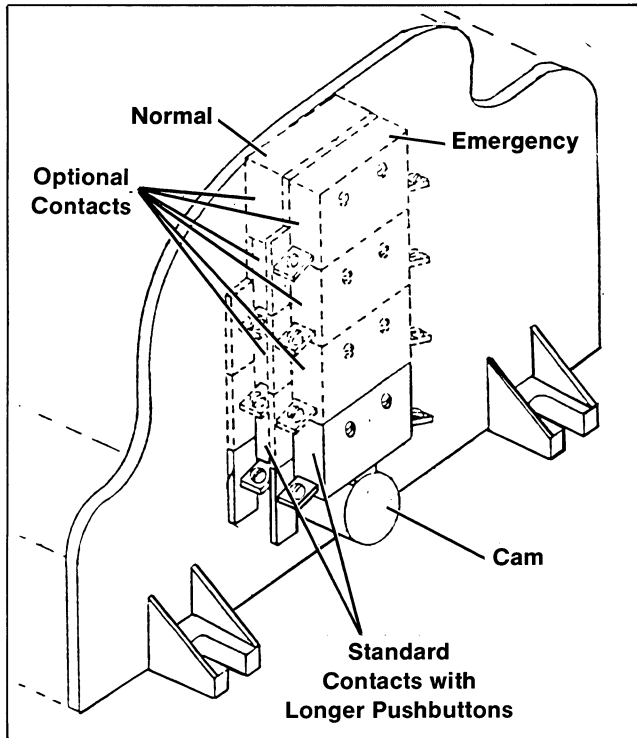

Figure 1-12. Auxiliary Contacts
See Figure 1-12 for location and type of installation. Auxiliary contacts are installed with (2) screws and an insulator in a vertical position and are series activated.